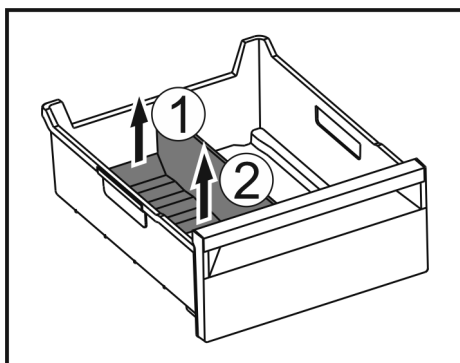

Fig. 149
- Lift the rear part of the ice compartment divider. Fig. 149 (1)
- Remove the ice compartment divider upwards. Fig. 149 (2)